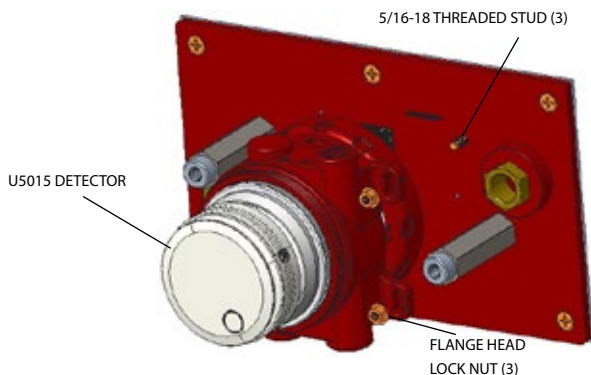

Figure 7—U5015 Smoke Detector mounted on Q5017R
1. Remove the three flange head lock nuts on the plate (Figure 7). Place the U5015 Smoke Detector over the hole locations, centering it in the slots. Replace and fasten the nuts to secure the detector to the plate.